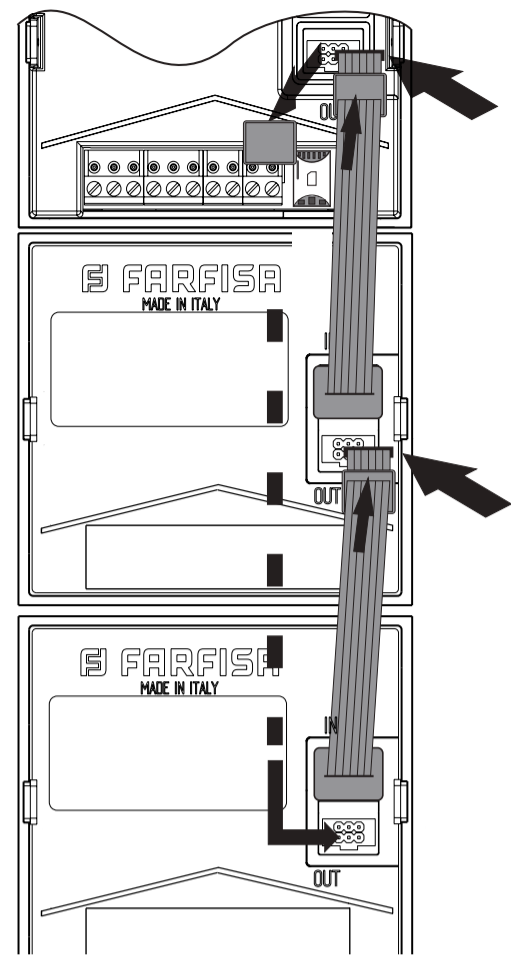

Fig.2b
- Connect the additional modules one after the other using the supplied flat cable (figure 2b).